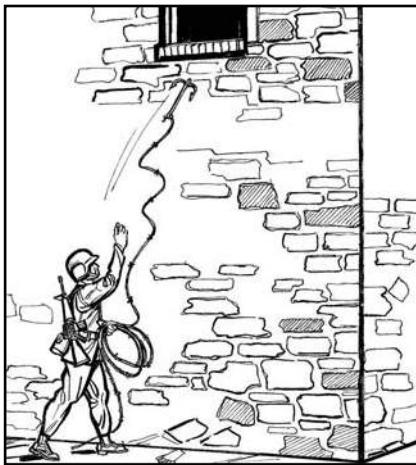

Figure 071-326-0542-1. Throwing the grappling hook
a. When throwing the grappling hook, stand as close to the building as possible. (This reduces exposure to enemy fire and reduces the throwing distance to the target.) Grasp a few coils of rope and the grappling hook in your throwing hand and the rest of the rope in your nonthrowing hand. The throw should be a gentle, even, upward lob of the hook and coiled rope from the throwing hand (figure 071-326-0542-1). Your nonthrowing hand should release the rope, allowing it to play out.
b. Once the grappling hook is inside the target area (or on the roof), pull on the rope until the hook catches solidly before you start the climb (figure 071-326-0542-2).